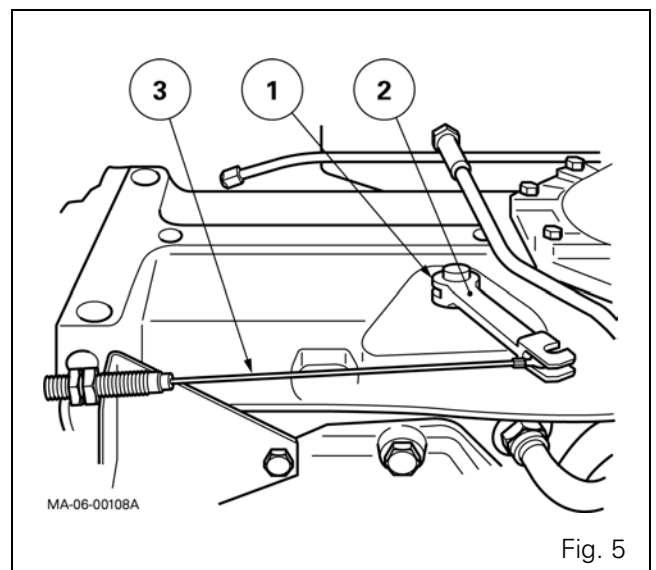

Fig. 5
14. Disconnect the cable (3). Take out the pin (1) and remove the control linkage (2) (Fig. 5).